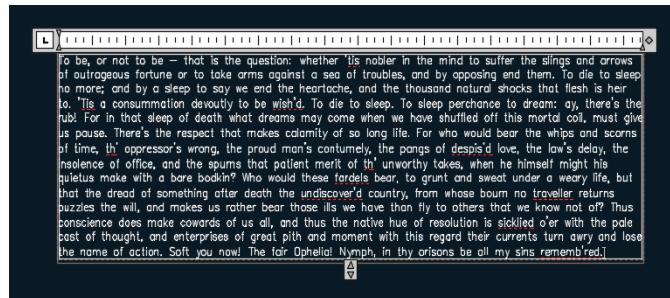

FIGURE 10.9 Importing text with the MTEXT command
- Click `Hamlet.txt` in the Select File dialog box that appears. Click Open, and text appears within the large rectangle (see Figure 10.9). The built-in spell checker identifies misspelled words by underlining them in red. Perhaps this is not surprising for English written 400 years ago, but in your own projects, right-click any underlined word that seems incorrect (which most likely wouldn't include company or product names, or technical jargon) to see some correctly spelled suggestions.